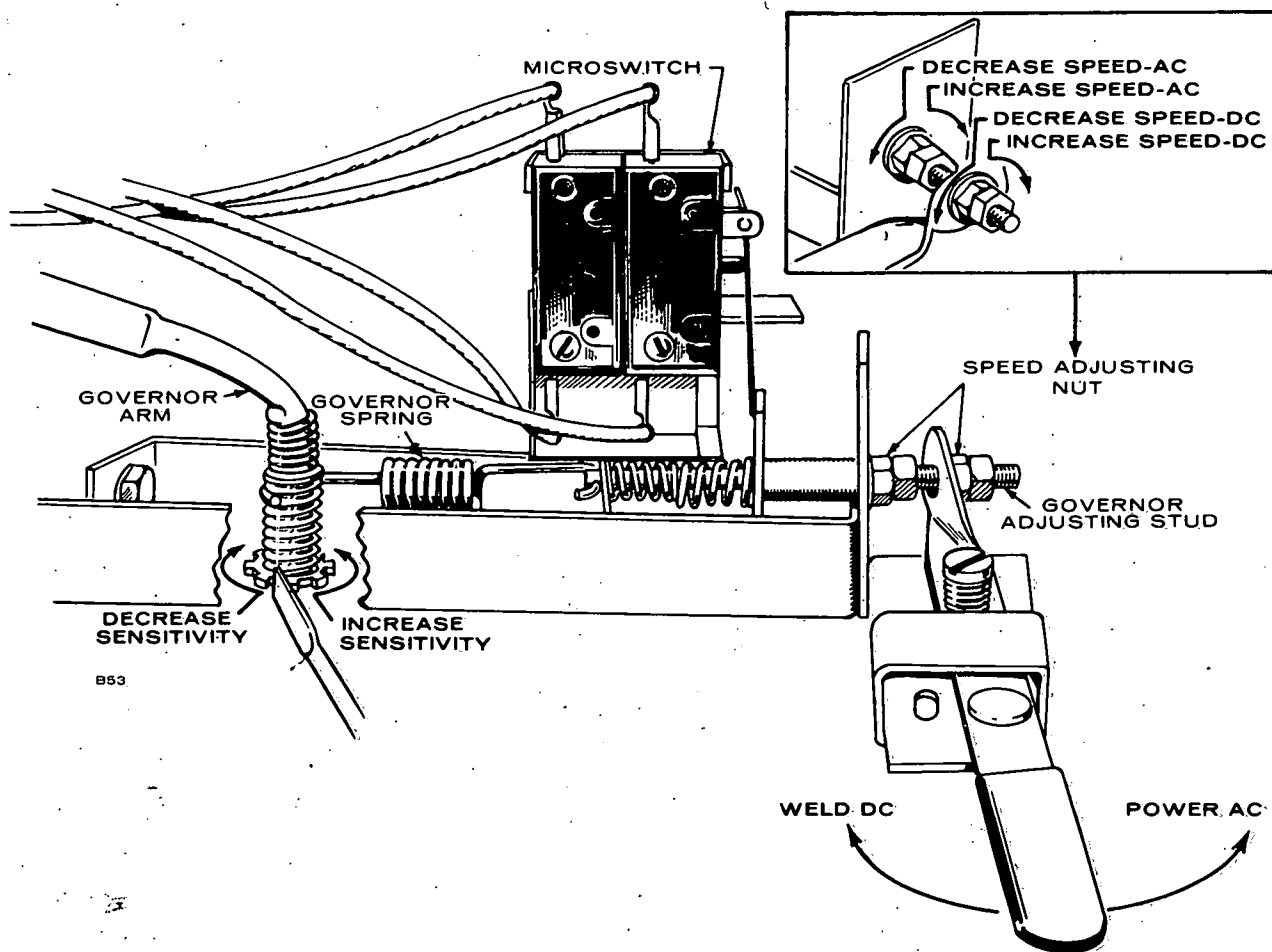

FIGURE 25. GOVERNOR ADJUSTMENTS (BEGIN LATE SPEC R MODELS)
The manual governor control lever has two positions, WELD and POWER. Engine speed is 1800 rpm for POWER operation, 2400 rpm for WELD operation (approximately 1850 and 2450 rpm respectively for no-load operation). For adjustments of the speed control or governor control linkage, refer to "Early Spec R Models" or "Begin Late Spec R Models," whichever is applicable (see Figures 25 and 26).
2. Engine speed should be approximately 1850 rpm for AC power at no load. If not, loosen the nuts on the end of the governor switch plate, turn clockwise (CW) to increase engine speed and counterclockwise (CCW) to decrease speed.
7. For sensitivity adjustment, take a screwdriver and adjust as shown in Figure 25.